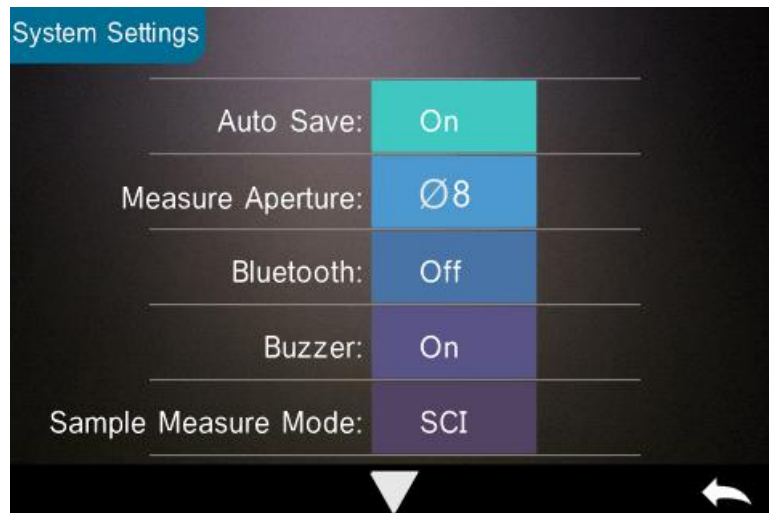
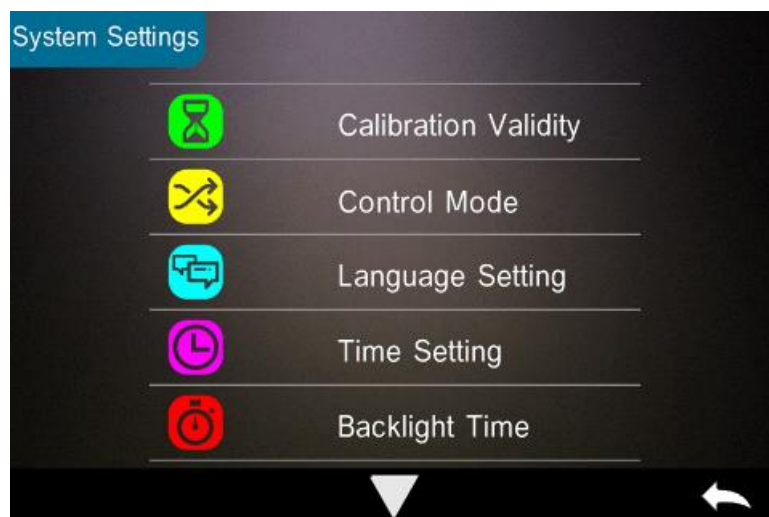
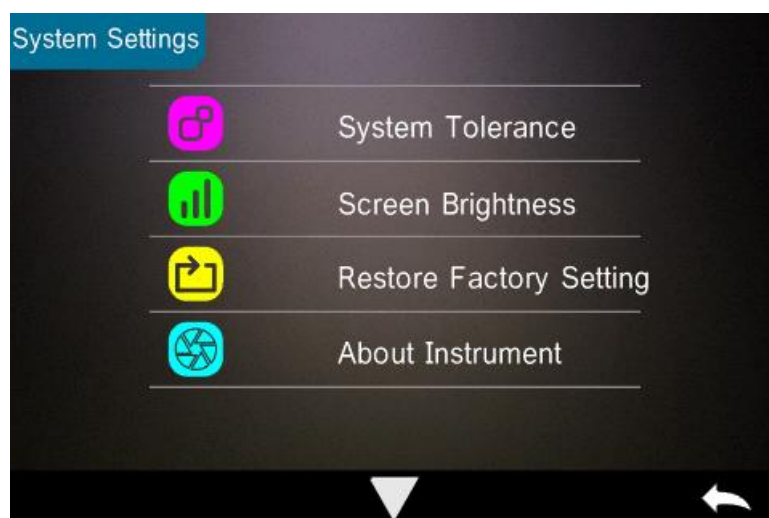

Figure 44 System Settings
Figure 45 System Settings
Figure 46 System Settings
In the main menu, click “System Setting” as shown in Figure 44, Figure 45 and Figure 46.
Step 3: Switch the default system measurement aperture to correspond with the actual measurement aperture. As shown in Figure 44, the current measurement aperture is $\Phi 8$ mm. After switching the measurement aperture, you have to re-calibrate the instrument according to part 2.2.